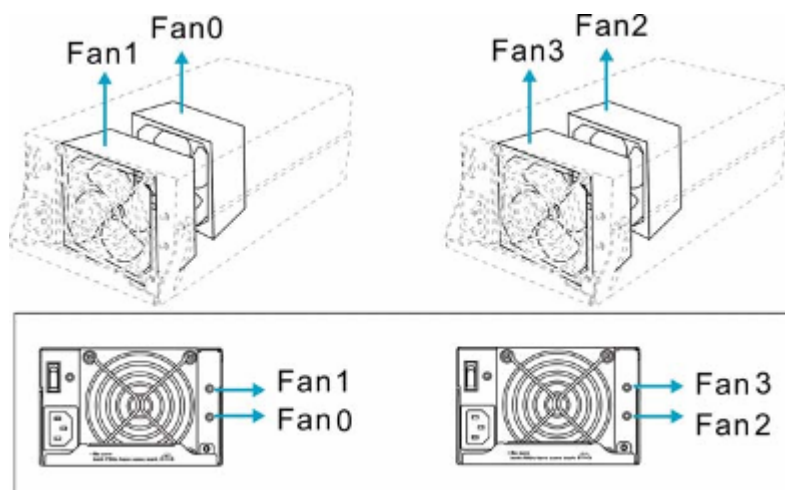

Figure 4-7: Cooling Module LEDs and Cooling Fan Locations
Each cooling module has two (2) red LEDs located on the PSU module. Each LED corresponds to an individual cooling fan. (See **Figure 4-7**) Please refer to the cooling module LED definitions shown in **Table 4-9**.